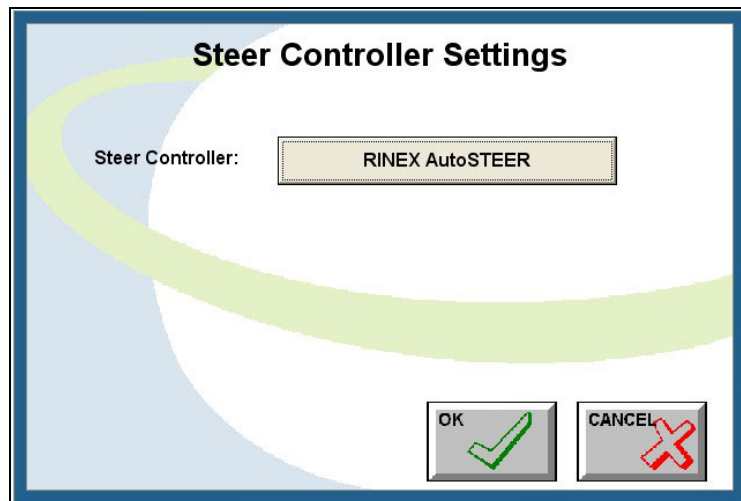

Figure 9-1: Steer Controller Settings Window
- 1) From the Steer Controller Settings Window (see Figure 9-1) touch the **STEER CONTROLLER** Button so that the Steer Controller list window is displayed.